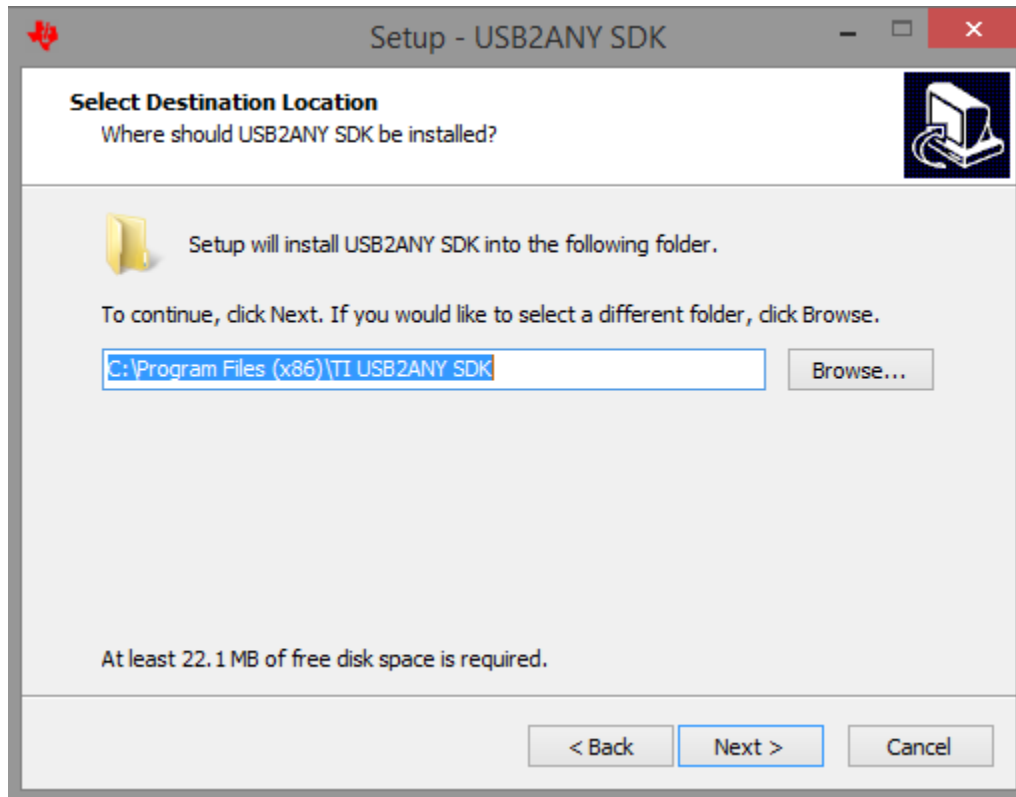

Figure 1-16. USB2ANY Installation Folder
13. Set the destination directories for the USB2ANY installation and click the Next» button as shown in Figure 1-16.